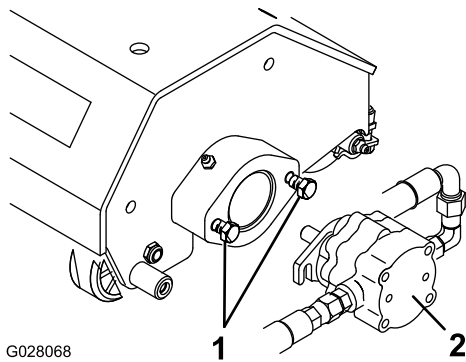

Figure 8
- A. Loosen the mounting screws for the reel motor to each spiker. Leave approximately 13 mm (1/2 inch) of threads exposed on each mounting screw (Figure 8).